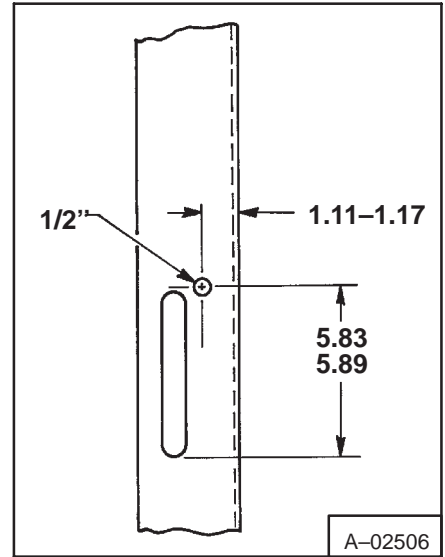

Fig. 1-8 Hole Location
1. Drill a 1/2" hole in the upright above the lower hinge (Fig. 1-8).